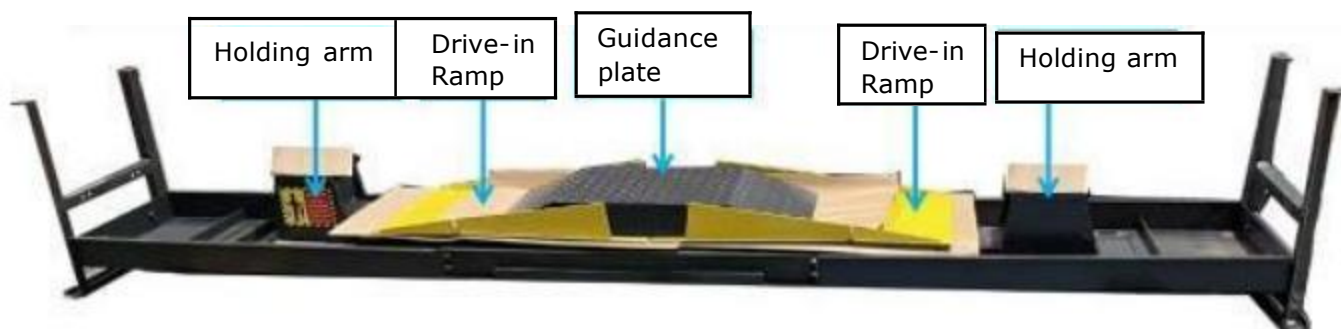

Fig.9
3. Take off bolts on upper platform → Move away the upper platform → Move aside the parts inside the lower platform → Take off the packing rack. **(See Fig. 9)**